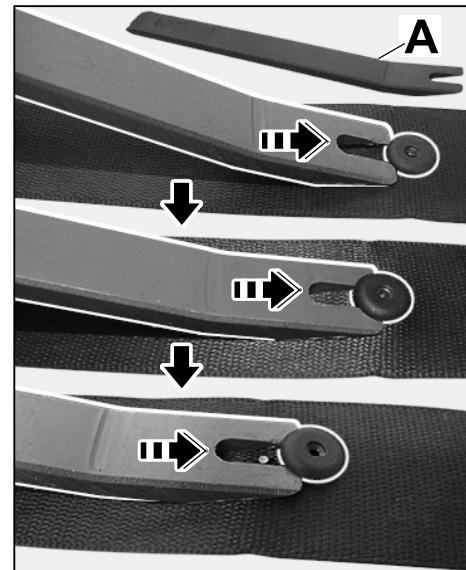

Figure 2
- 5.1 Carefully guide the assembly wedge from Wieländer + Schill (Item No. 581104 ⇒ *Figure 2-A-*) or Hazet (Item No. 1965-21) between the bottom of the plastic rivet and belt strap.
- 5.2 Carefully press the assembly wedge in the longitudinal direction of the belt until the bottom of the plastic rivet springs up (⇒ *Figure 2*).